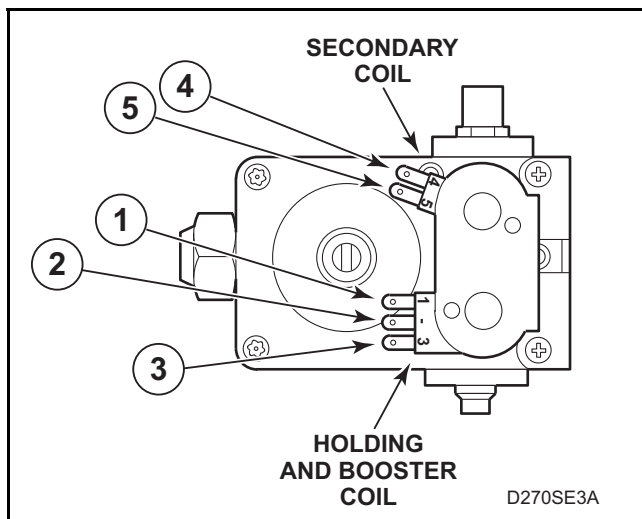

Figure 37
- Remove valve wire harness disconnect block from the holding and booster coil. Refer to *Figure 37*.
- Set test meter to read Ohms and put meter probes to terminals shown in *Figure 37*, and in the following chart.